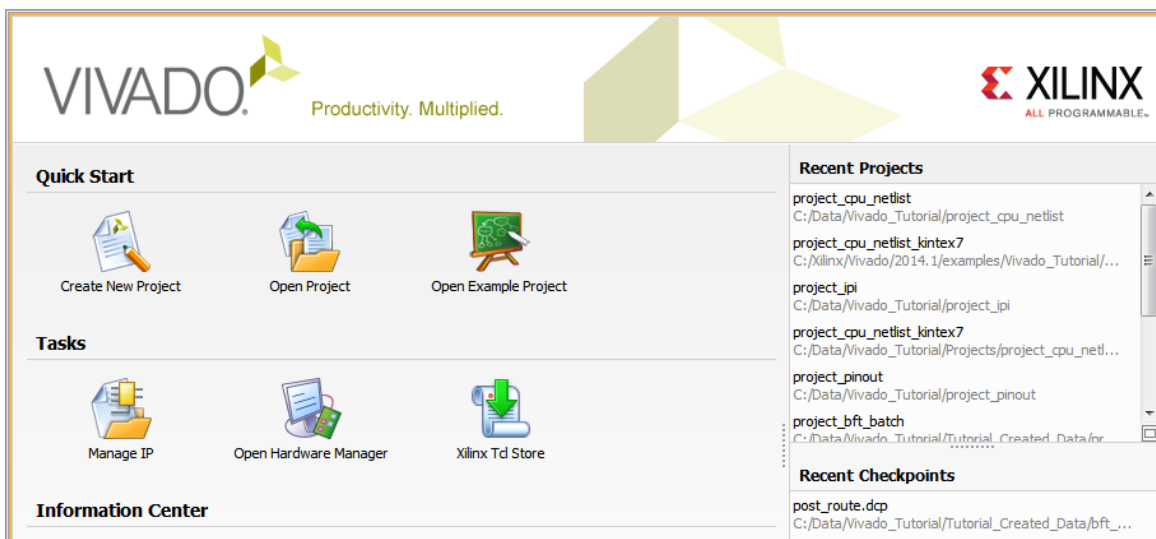

Figure 29: Open Recent Projects from the Getting Started Window
2. Under **Recent Projects**, click **project_cpu_netlist** as shown in Figure 29.